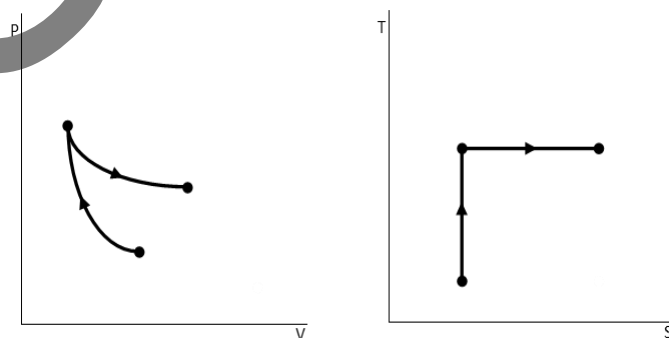

Figure 2.2: Stages 1-2-3 of the Carnot cycle
- 2-3:** Fig.2.2 represents the second stage, the isothermal process means that there is a heat input, but the process also produces a work output.